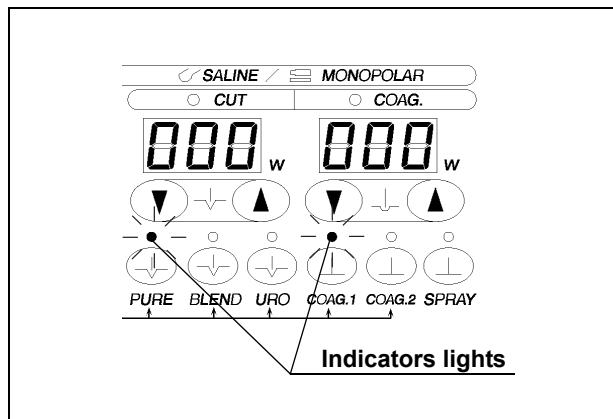

Figure 4.4
2. Confirm that the "PURE" monopolar cut mode indicator is lit (see Figure 4.4).